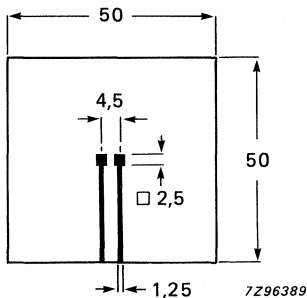

Fig. 2 Mounted on a printed-circuit board.
$$T_{amb} = 55\text{ }^{\circ}\text{C}; \text{ PCB mounting (Fig. 2)}$$
2. Thermal resistance from junction to ambient when mounted on a 1.5 mm thick epoxy glass PCB; Cu-thickness $\geq 40\text{ }\mu\text{m}$; Fig. 2.